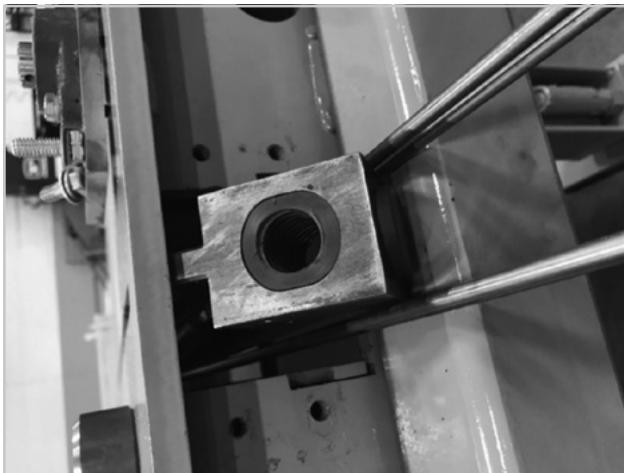

Figure 81
- Insert the New ACME Nut leaning toward the opposite side (Figure 81)